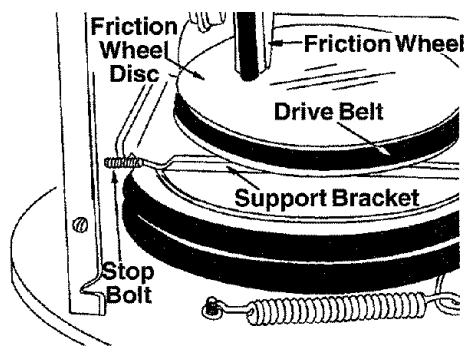

FIGURE 24
- Back out the stop bolt until the support bracket rests on the auger pulley. See figure 24.
- Slip belt between friction wheel and friction disc plate. See figure 24. Reassemble by following the instructions.
NOTE: The support bracket must rest on the stop bolt after the new belt has been assembled. See figure 24.